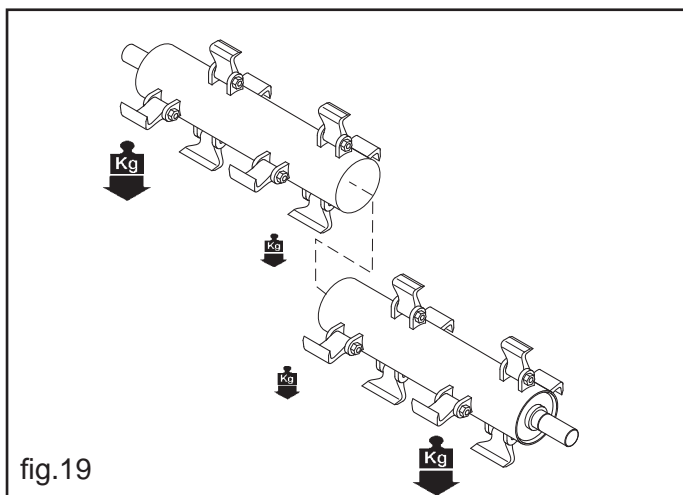

fig.19
- Install the heaviest pairs at the two ends of the rotor and the lighter pairs in the middle (fig.19).